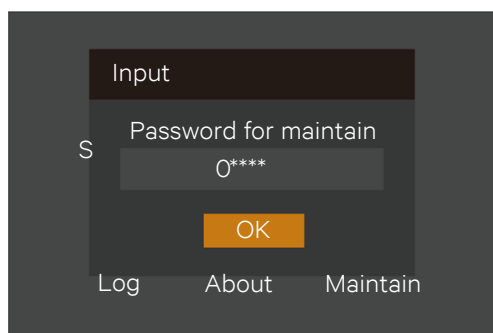

Figure 5-19 Inputting password
2. Press the  key, the interface shown in Figure 5-19 is displayed.